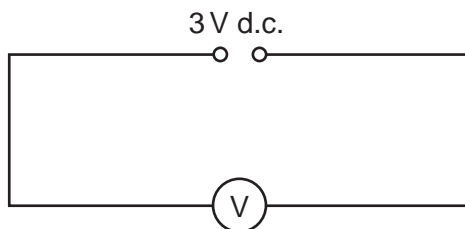

Fig. 1.1
- (a) • Set up the circuit shown in Fig. 1.1.